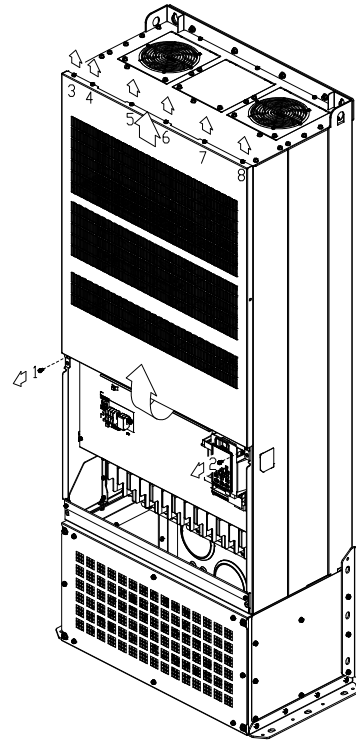

Figure 2
2. Loosen the screw and remove the top cover (figure 2). Screw torque: 24-26kg-cm / [20.8-22.6 lb-in.] / [2.4-2.5 Nm]